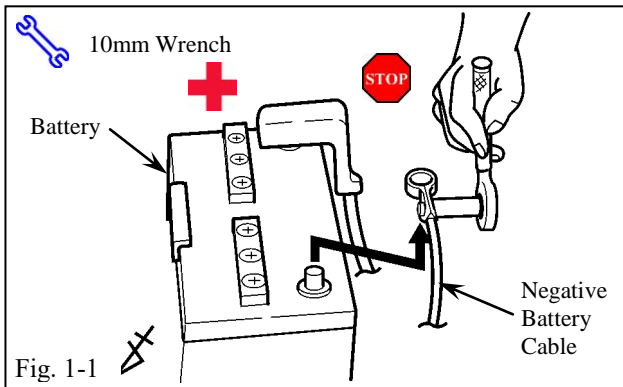
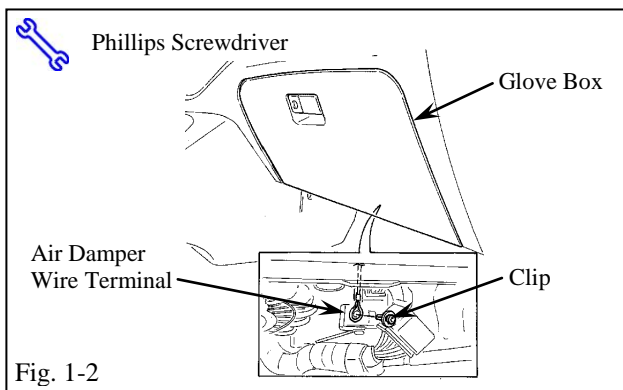

Fig. 1-1
Fig. 1-2
- (a) Remove the negative battery cable. (Fig. 1-1)
- (1) Protect the fender before starting.
- (2) Do not touch the positive terminal with any tool removing the cable.
- (b) Remove the air damper wire terminal from the bottom of the glove box. (Fig. 1-2)
- (1) Remove the clip securing the air damper wire terminal.